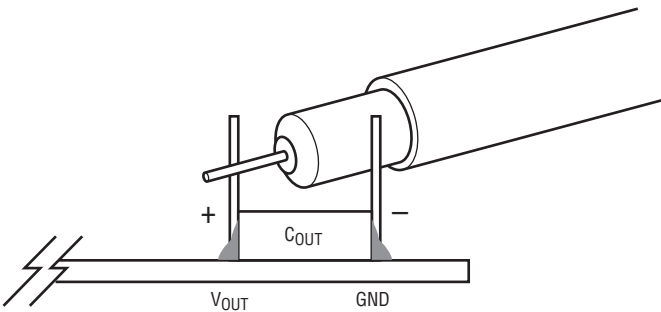

Figure 2. Measuring Output Voltage Ripple
2. When measuring the output or input voltage ripple, do not use the long ground lead on the oscilloscope probe. See Figure 2 for the proper scope probe technique. Short, stiff leads need to be soldered to the (+) and (–) terminals of an output capacitor. The probe's ground ring needs to touch the (–) lead and the probe tip needs to touch the (+) lead.